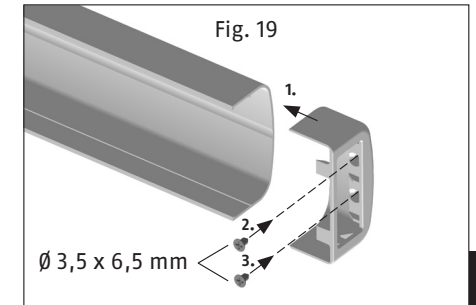

Fig. 19
2. Press down the door bar guides and secure with 2 screws 3.5 x 6.5 mm (Fig. 19).